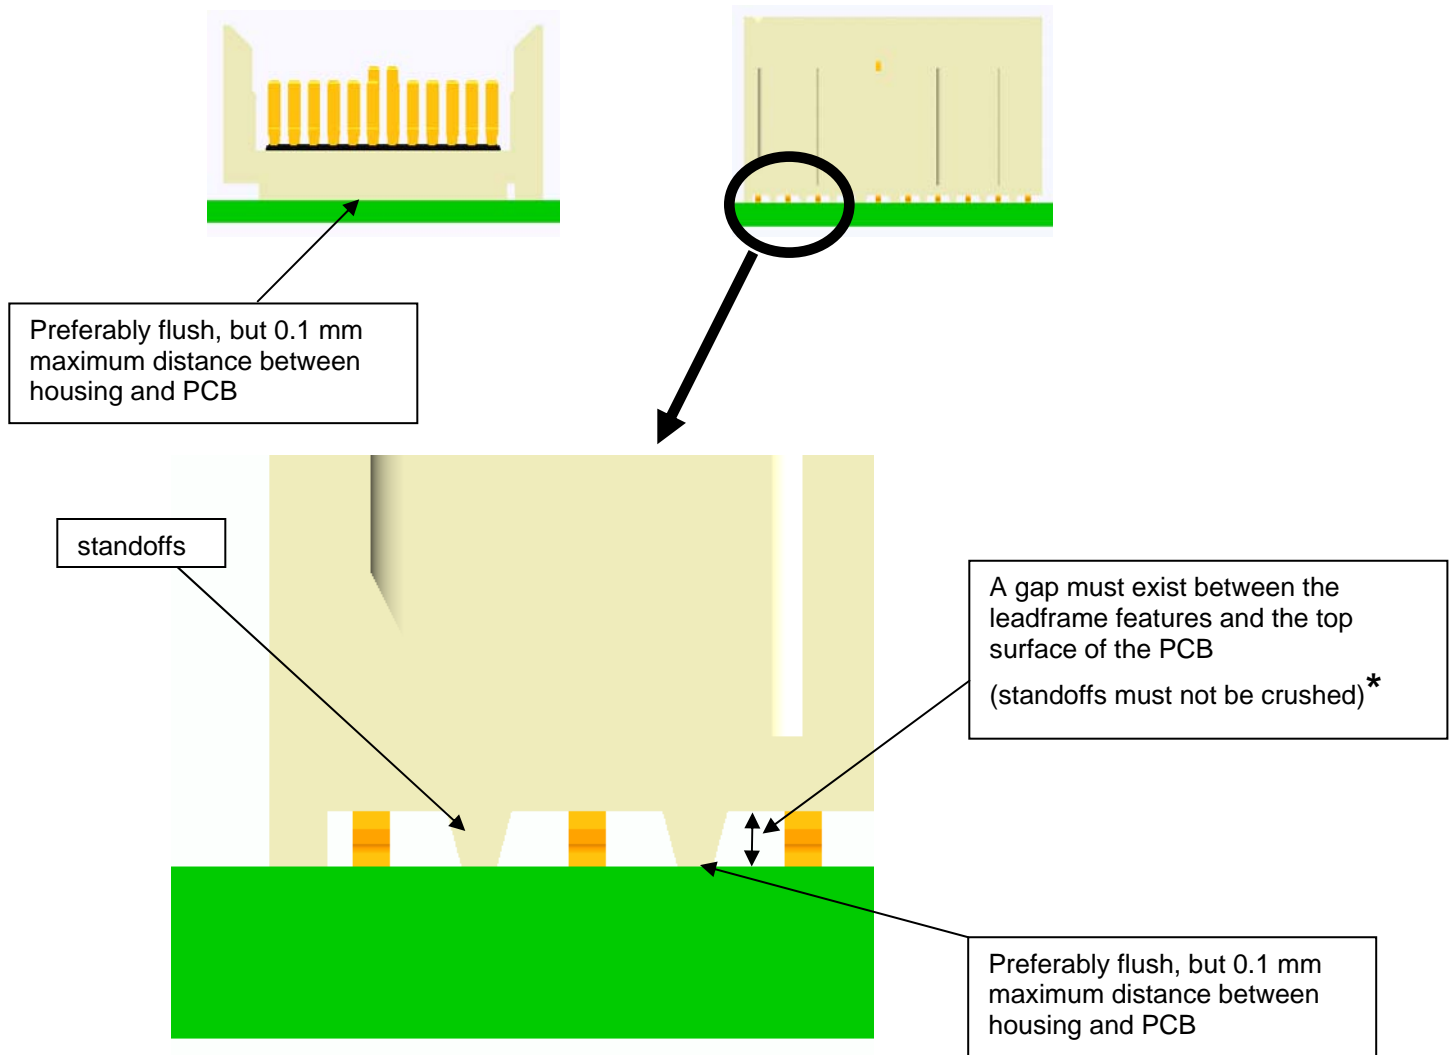

Figure 15: Proper seating depth of vertical header
- For vertical headers, visually assure that the triangle cut-out and product marking correspond to the A1 position side of the PCB footprint. Also make sure any vertical connector is not over-pressed into the PCB (see Figures 15 and 16).